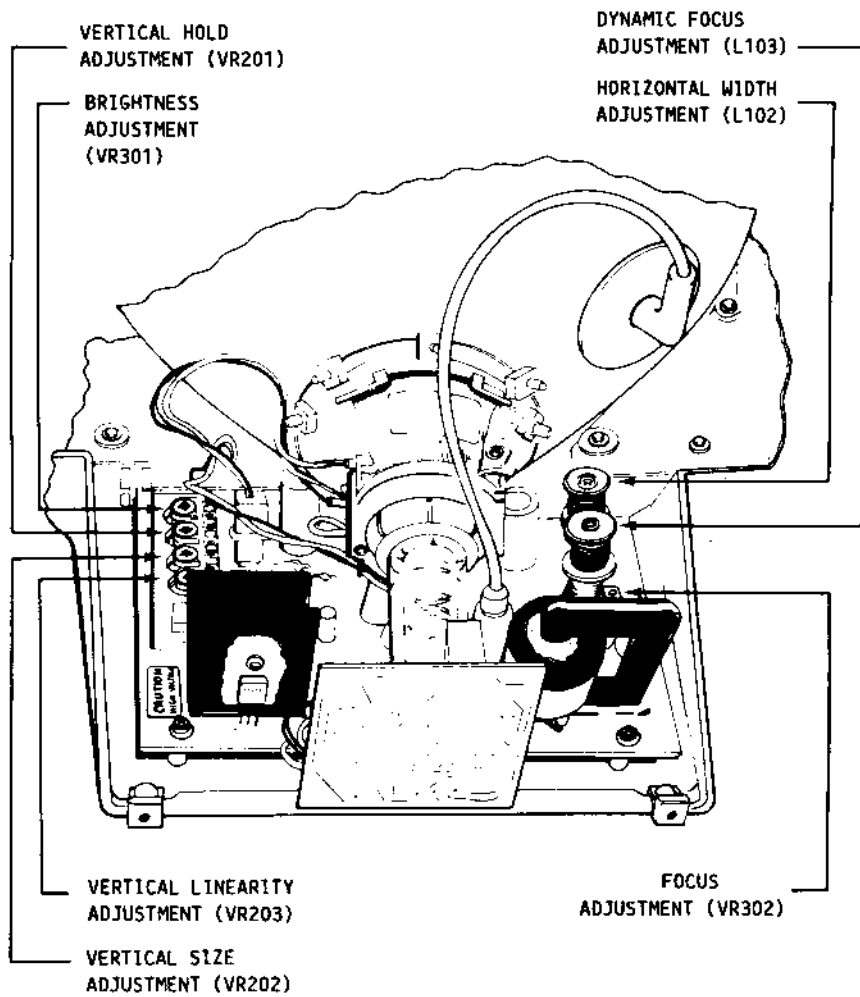
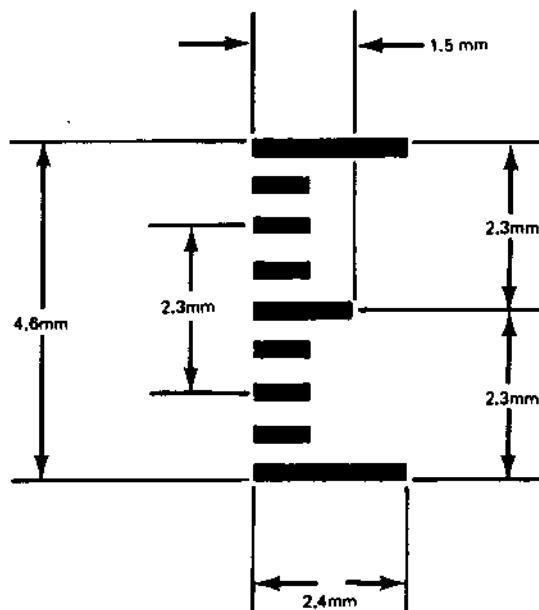

Fig. 3-1 Video Adjustments
Fig. 3-2 Dimensions of E Character
Seven adjustments on the video board, as shown in figure 3-1, permit adjustment of the brightness, focus, vertical size, vertical linearity and horizontal size. Note that brightness should be adjusted prior to performing the other adjustments.
6. Adjust brightness (VR301 on video board; see figure 3-1) so that the CRT display is at maximum brightness but no raster is visible.
4. Adjust focus (VR302 on video board for centre focus; focus coil L103 for edge focus: see figure 3-1) so that the dot of every exclamation mark (in both centre and edge areas of the screen) is clearly separated.
5. Adjust the vertical dimension of the video display (VR202 on the video board: see figure 3-1) to 172 mm (± 3 mm).
5. Adjust the horizontal dimension of the video display (L102 on the video board: see figure 3-1) to 239 mm (± 5 mm).
5. Adjust vertical linearity (VR203 on the video board: see figure 3-1) so that typical dimensions of any "E" character are within 15% of the dimensions illustrated in figure 3-2.